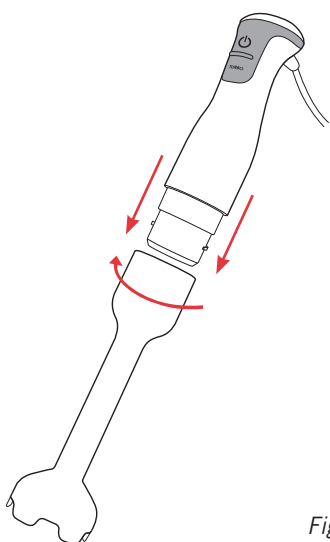

Figure 1
1. Insert the motor housing into the wand and twist the wand in a clockwise position until you hear a click. See Figure 1.